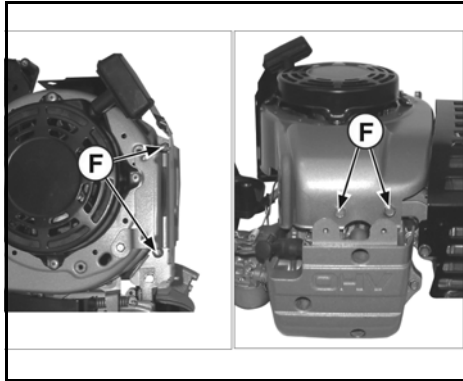

Figure 8
- Remove the oil fill tube and dipstick. Remove the screws (F, Figure 8) and blower housing.